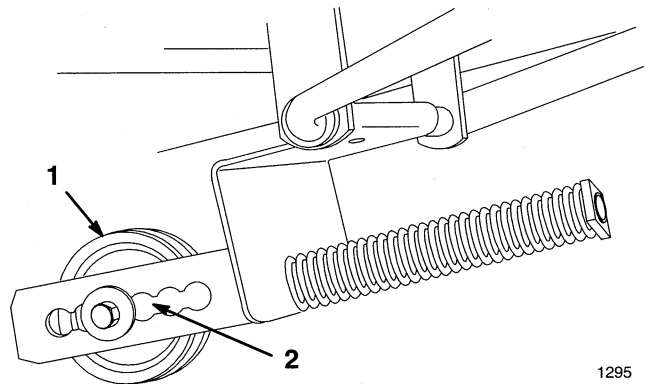

**Figure 30**
2. As the drive belt wears, and the snowthrower is raised and lowered, the spring loaded idler pulley moves in the slot (Fig. 30).
2. Pull on spring loaded idler pulley and remove belt from snowthrower pulley to release tension on belt (Fig. 30).